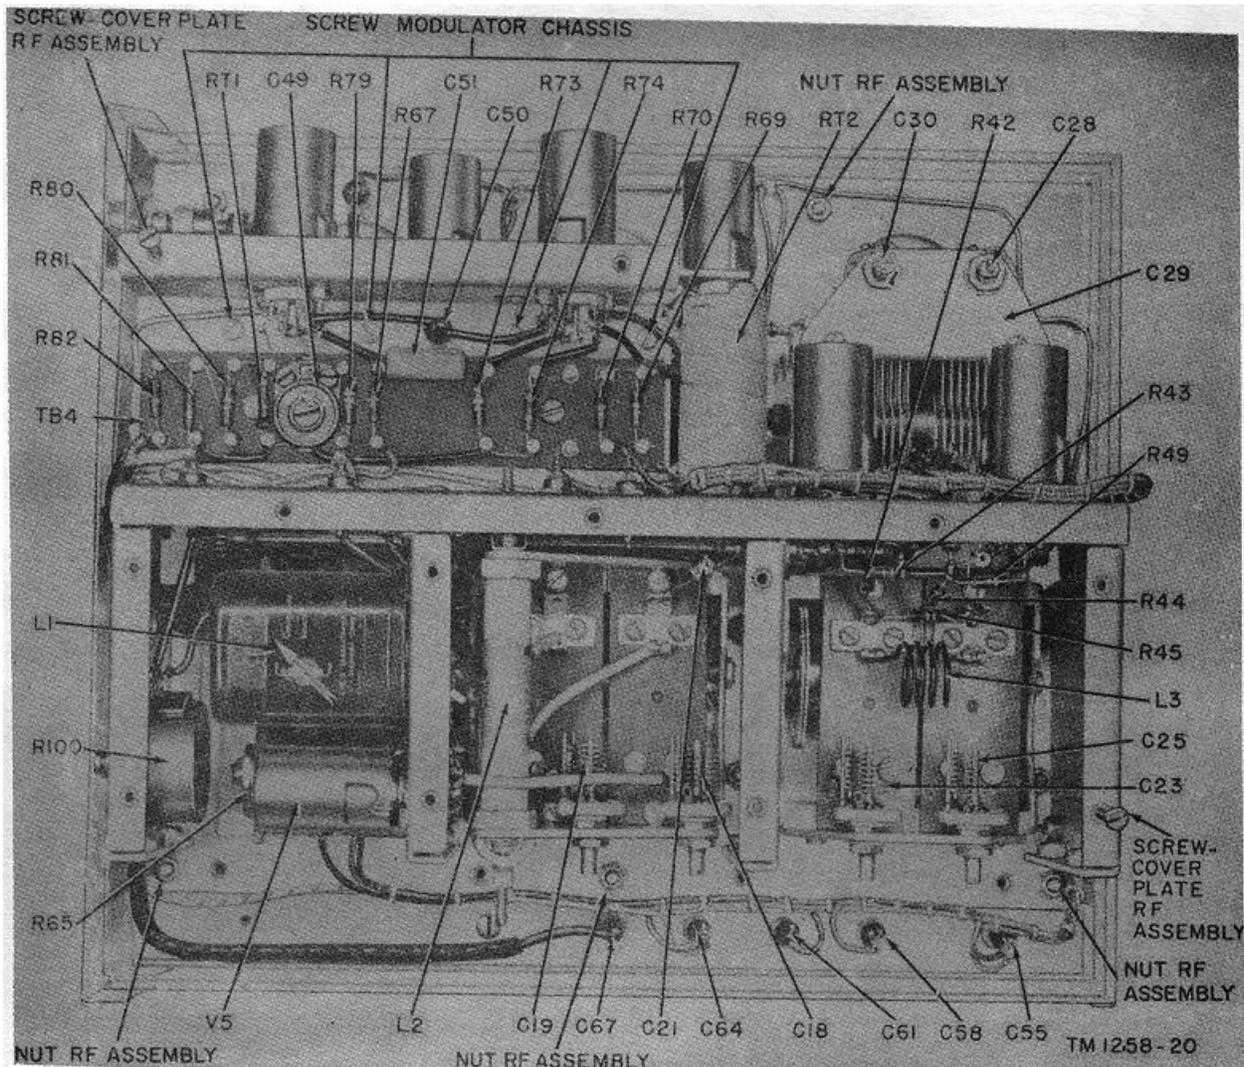
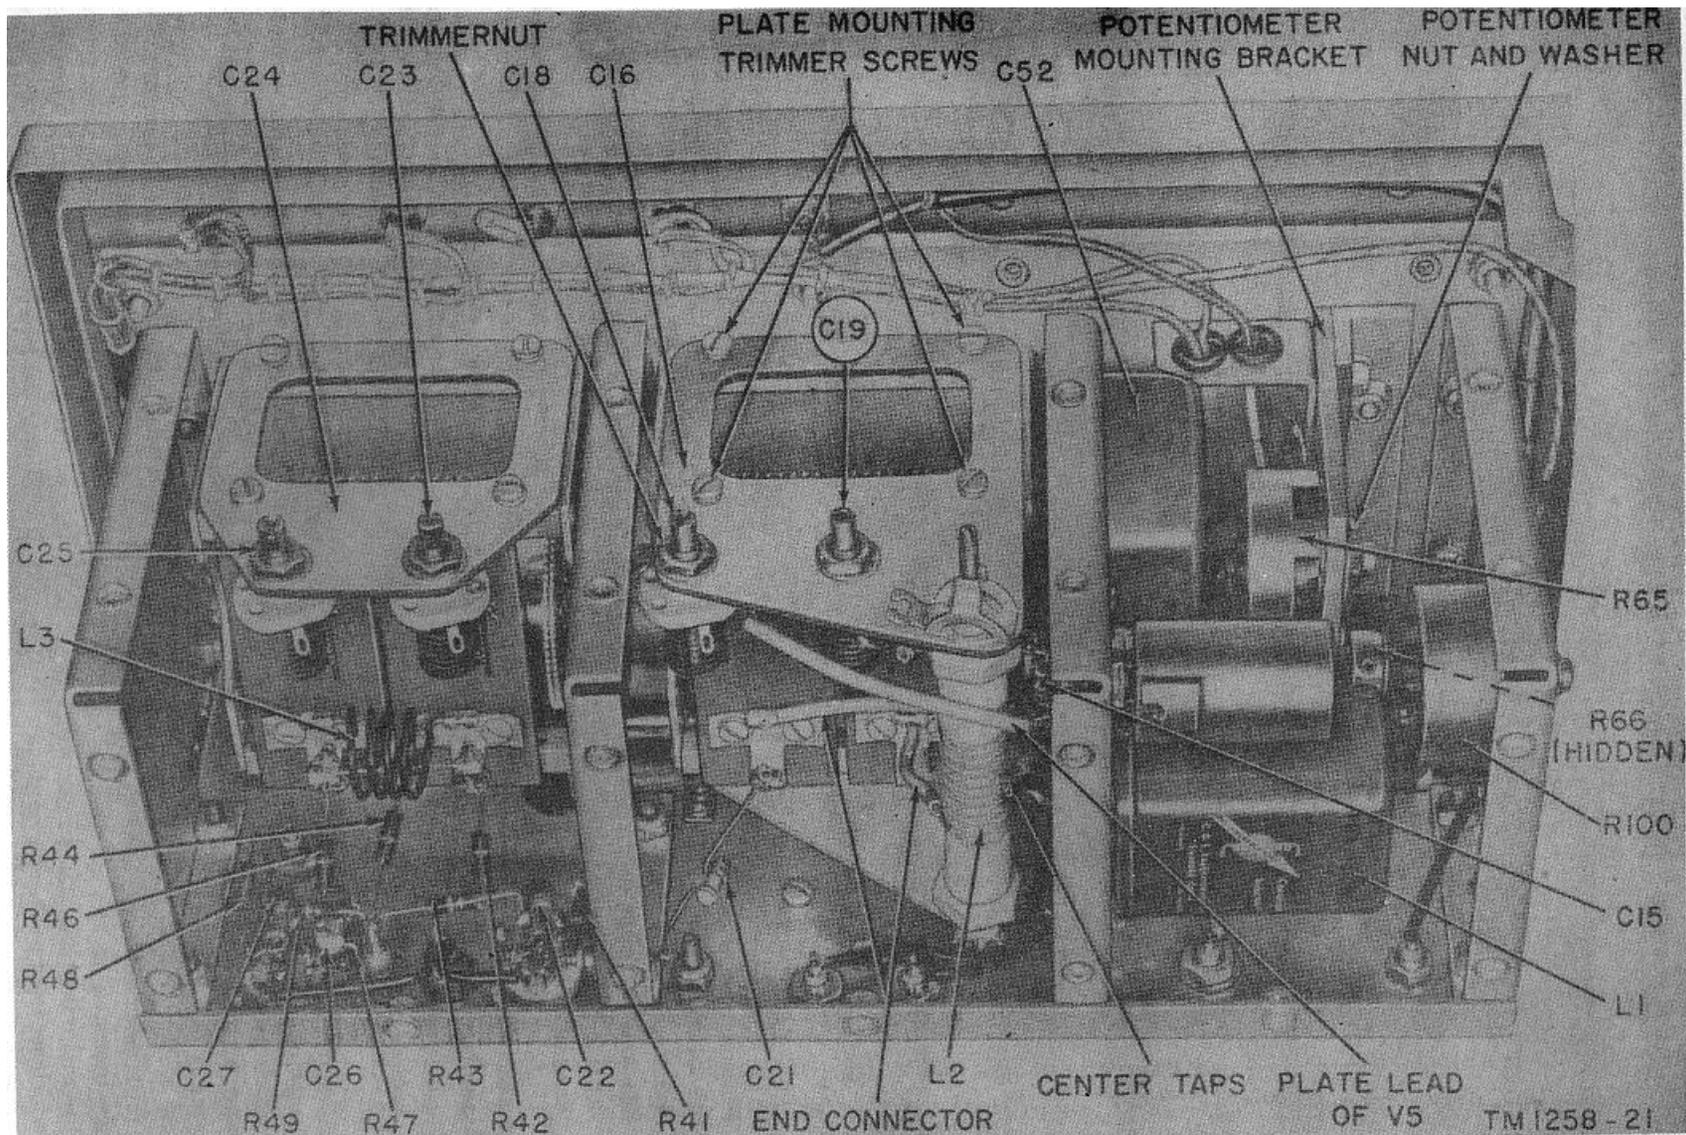
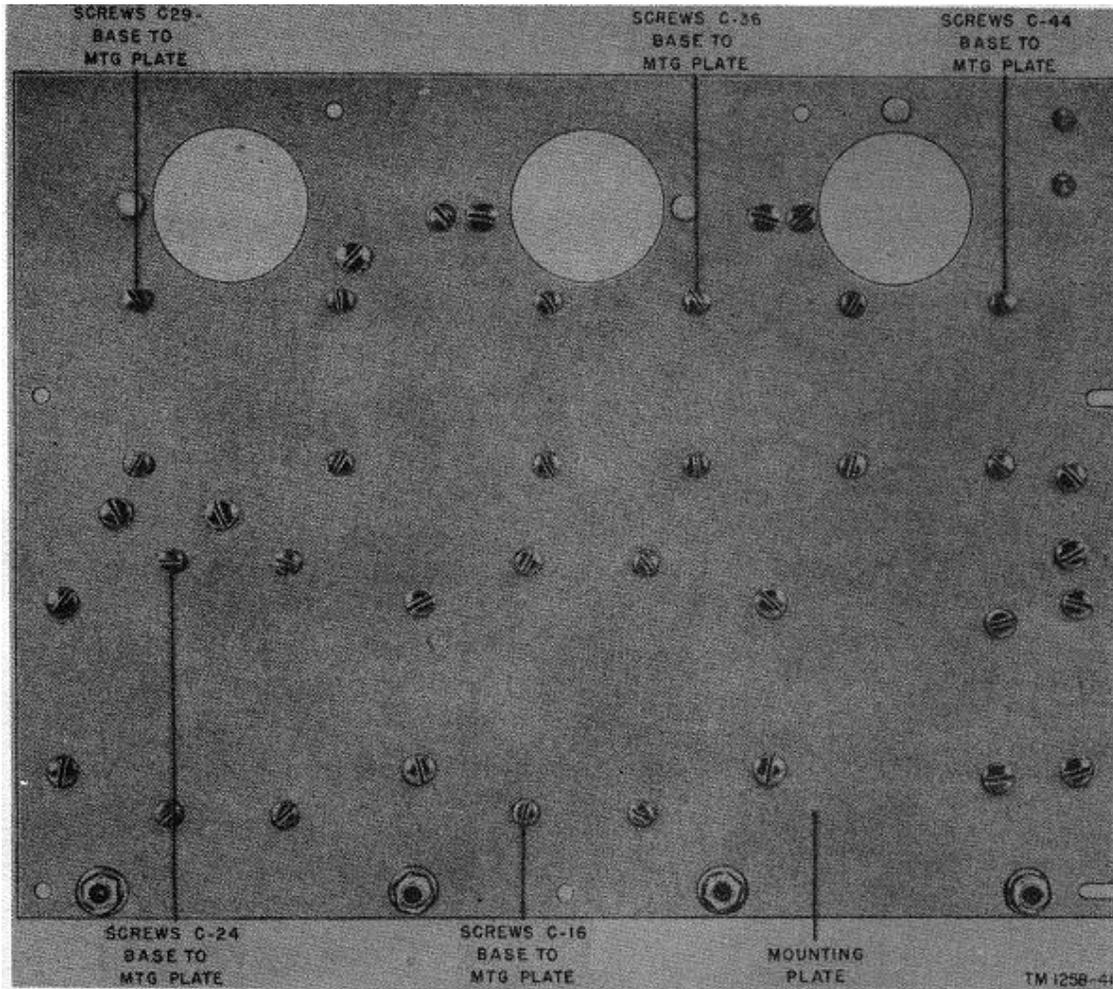
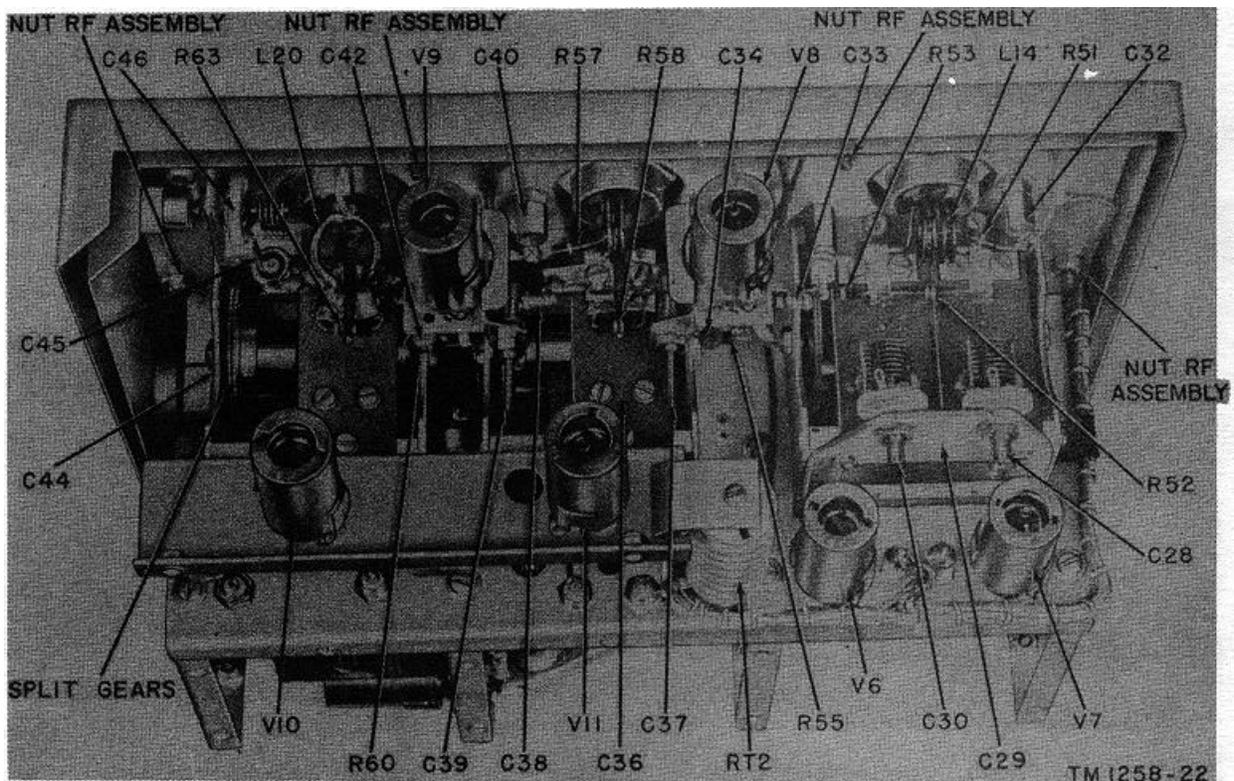

Figure 21. Rf assembly, left side view.
Figure 22. Rf assembly, top view.
Figure 23. Mounting plate.
Figure 25. Rf assembly, bottom view.
screws (fig. 21) which secure the cover plate to the rf assembly.
- (5) Loosen the four setscrews in the hub to which the **FREQ. IN MEGACYCLES** dial was secured. (There are two setscrews in each hole.) Remove the hub.
- (6) Loosen the two setscrews in the hub of the 200-400MC TRIMMER and remove the plastic shaft.
- (7) Unsolder the leads to C55, C58, C61, C64, and C67 (fig. 21) on the rf assembly.
- (8) Remove the seven nuts (figs. 21 and 25) which secure the oscillator subplate to the chassis and remove the rf assembly.
- (1) Position the rf assembly and replace the seven nuts which secure the oscillator subplate to the chassis.
- (2) On the rf assembly, solder the leads to C55, C58, C61, C64, and C67 (fig. 21).
- (3) Insert the plastic shaft and tighten the two setscrews in the hub of the 200-400MC TRIMMER capacitor.
- (4) Position and then secure the hub of the **FREQ. IN MEGACYCLES** dial by tightening the two setscrews, and two locking setscrews.
- (5) Position, then secure the **FREQ. IN MEGACYCLES** dial to the hub by replacing the three screws previously removed.
- (6) Position the hairline window. Replace the two screens that secure tile window in
- (2) Unsolder the leads leading to C21, C15, the plate lead of V5, and the three center tap leads of L2 (fig. 22).
- (3) Remove the four screws that secure the base of the assembly to its mounting plate (fig. 23).
- (4) Remove the C16 capacitor assembly.
a. To remove tuning capacitor assembly C16 (fig. 22) from the rf assembly, proceed is follows:
- (1) Remove the rf assembly by following the instructions given in paragraph 61.
Capacitors C18 and C19 and coil L2 are components of the tuning capacitor assembly C16 (figs. 21 and 22).
b. To replace tuning capacitor assembly C16 (fig. 22), proceed as follows:
- (1) Position the assembly and secure it to the mounting plate by replacing the four screws previously removed.
- (2) Solder the leads leading to C21, C15, the plate lead of V5, and the three center tap leads of L2 (fig. 22).
- (3) Replace the rf assembly as described in paragraph 61.
a. To remove tuning capacitor assembly C24 (fig. 22) from the rf assembly, proceed as follows:
- (2) Unsolder the leads connecting R42, R44, and R46 (fig. 22) to the capacitor assembly.
- (4) Remove the assembly.
Coil L3 and capacitors C25 and C23 (figs. 21 and 22) and the split gears (fig. 22) are all components of the tuning capacitor assembly C24.
b. To replace tuning capacitor assembly C24 (fig. 22), proceed as follows:
- (1) Position the assembly and secure it to the mounting plate with four screws.
- (2) Solder the three leads attached to R42, R44, and R46 (fig. 22).
- (3) Replace the rf assembly as described in paragraph 61b.
- (3) Unsolder the three leads to C45, C46 (fig. 25), and C41.